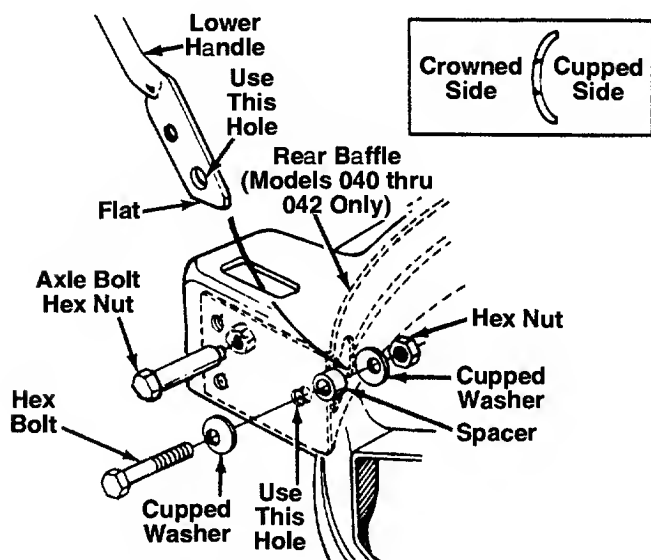

FIGURE 1.—Models 040 thru 042 Shown
NOTE: ALL MODELS—The handle on your mower can be adjusted to two different height settings. To raise the height of the handle attach the lower handle so that the flat part of the handle is facing downward, as shown in figure 1 and 1B. To lower the height of the handle rotate handle so that the flat part of the handle faces upward.
2. **Models 040 through 042 only:** Place the rear baffle in position inside the rear of the deck. Use one axle bolt and hex nut on each side of the rear of the deck to secure baffle temporarily so you can attach the lower handle. See figure 1.